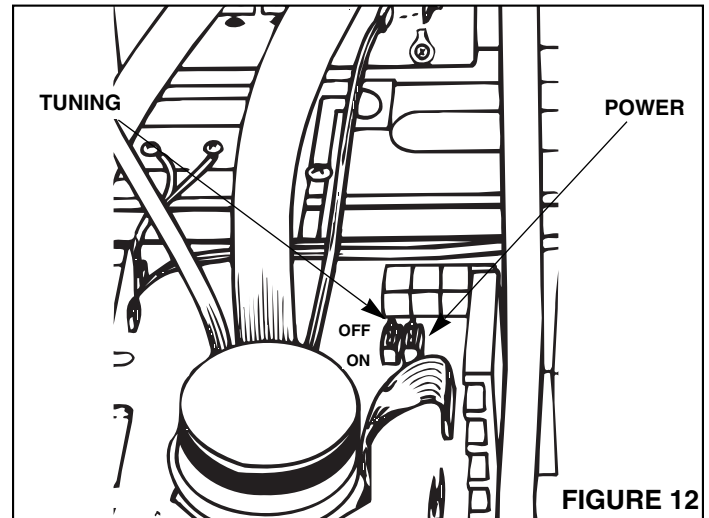

FIGURE 12
**Refer to Figure 12.** Slide the switch labeled **POWER** located on the master station's main PC board to the **OFF** position. This will disable the remote station radio on/off function at **ALL** remote stations.
**Refer to Figure 12.** Slide the switch labeled **TUNING** located on the master station's main PC board to the **OFF** position. This will disable the remote station radio memory channel selection function at **ALL** remote stations.